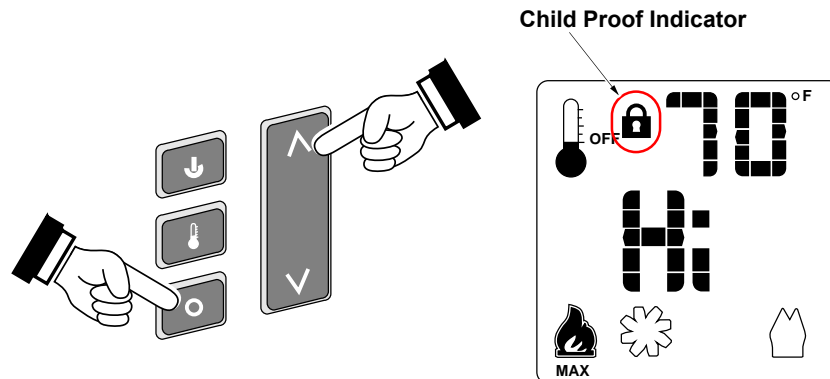

Figure 14
- Press both the MODE and UP buttons simultaneously to turn this feature on and off (see Figure 14 below).